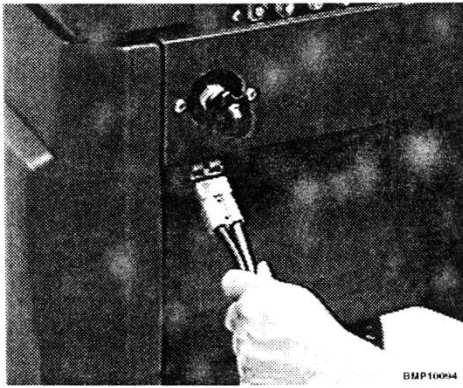

Figure 16
2. Connect the charger plug into the machine firmly. The machine's mating charger plug is mounted just below the parking brake on the rear of the machine (Figure 16).